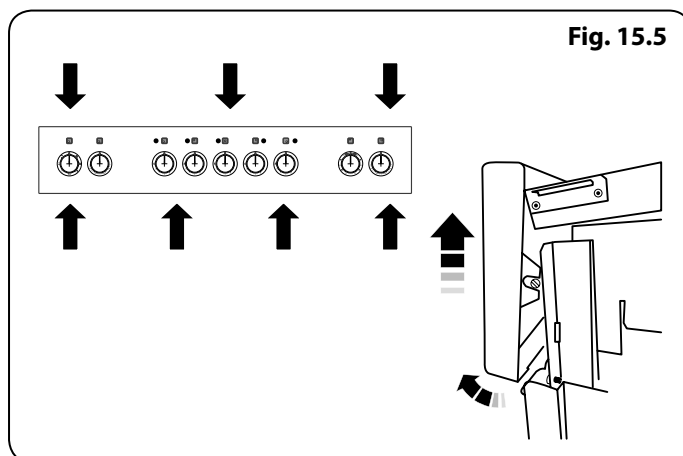

Fig. 15.5
2. Open both oven doors and remove the fixing screws underneath and top rear of the control panel (**Fig. 15.5**).
3. Pull forward and gently lift the control panel. Rest the control panel on a cloth to protect the control panel from any damage (**Fig. 15.5**).